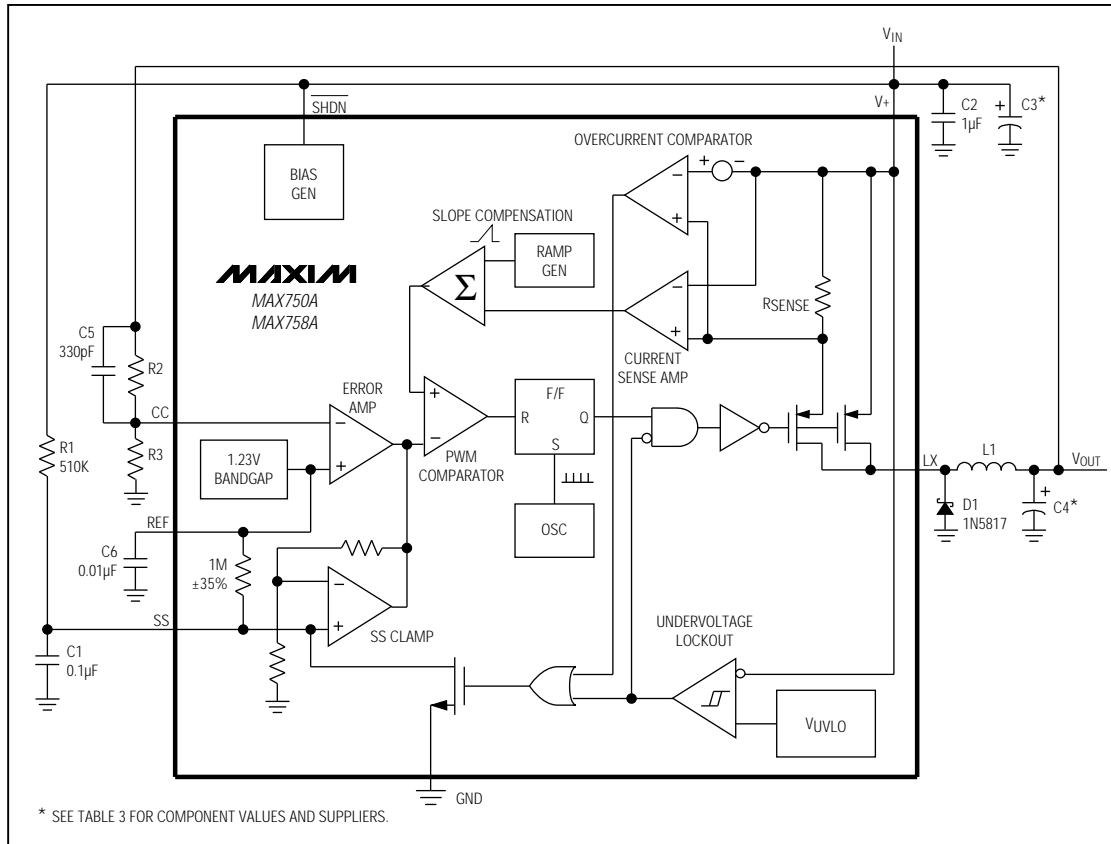

Figure 1. Detailed Block Diagram with External Components
The controller consists of two feedback loops: an inner (current) loop that monitors the switch current via the current-sense resistor and amplifier, and an outer (voltage) loop that monitors the output voltage through the error amplifier (Figure 1). The inner loop performs cycle-by-cycle current limiting, truncating the power-transistor on-time when the switch current reaches a predetermined threshold. This threshold is determined by the outer loop. For example, a sagging output voltage produces an error signal that raises the threshold, allowing the circuit to store and transfer more energy during each cycle.
Figures 1 and 2 show a capacitor and a resistor connected to the soft-start (SS) pin to ensure an orderly power-up. Typical values are 0.1µF and 510kΩ. SS controls both the soft-start timing and the maximum output current that can be delivered while maintaining regulation.